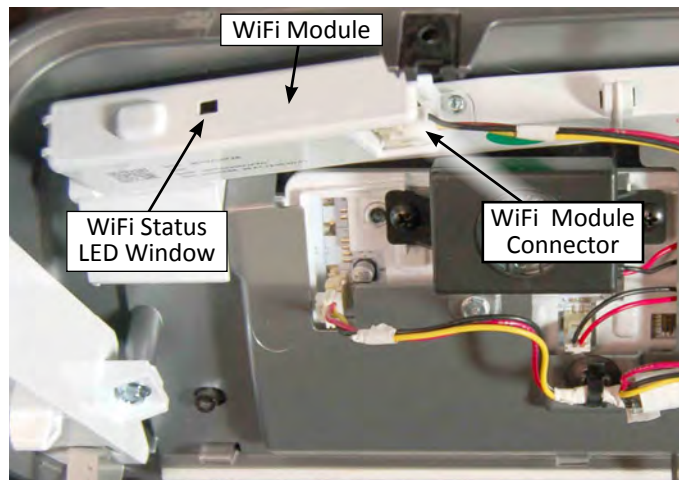

Figure 4
5. Inspect the WiFi module and wiring: (see Figure 4)